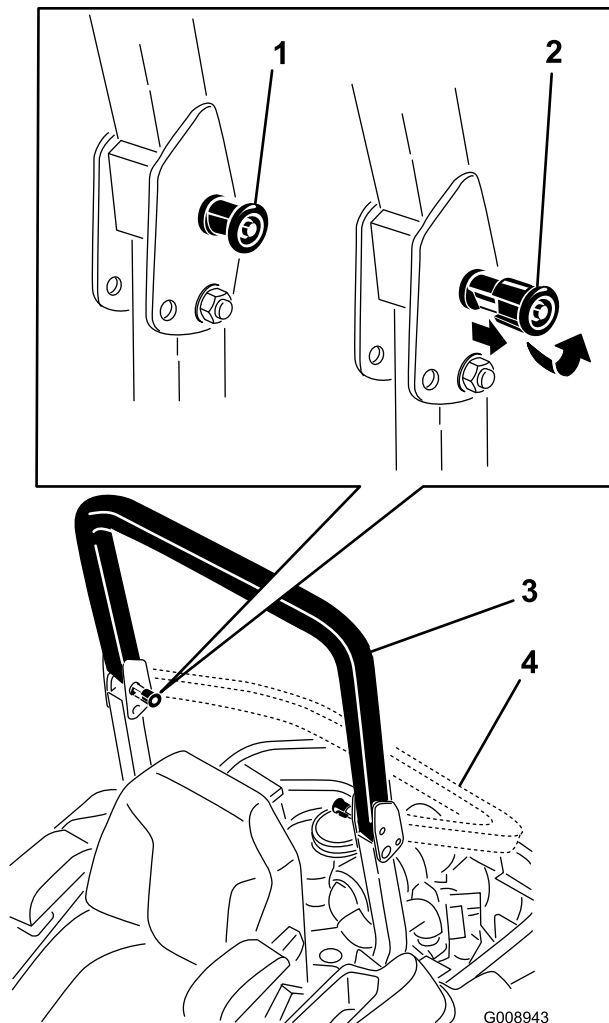

Figure 8
2. Pull both knobs out and rotate them 90° so they are not engaged (Figure 8).
- Lower the roll bar to the down position (Figure 8).
- To raise the roll bar, raise the roll bar to the operate position, rotate the knobs so they move partially into the grooves (Figure 8).
- Raise the roll bar to the full upright position while pushing on the upper roll bar and the pins will snap into position when the holes align with the pins (Figure 8). Push on the roll bar and ensure that both pins are engaged.